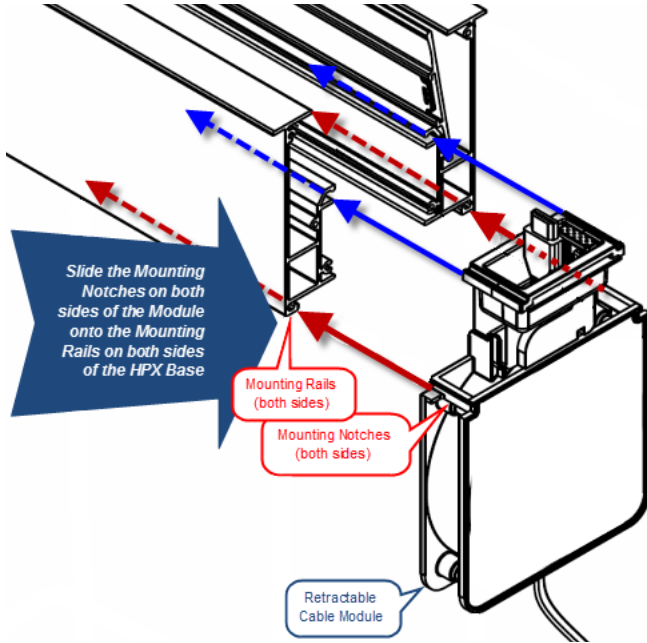

FIG. 5 RETRACTABLE CABLE MODULE - MOUNTING INTO AN HPX BASE ASSEMBLY
1. Orient the module relative to the HPX base assembly so that the Module's faceplate is facing up, towards the mounting surface (FIG. 5).